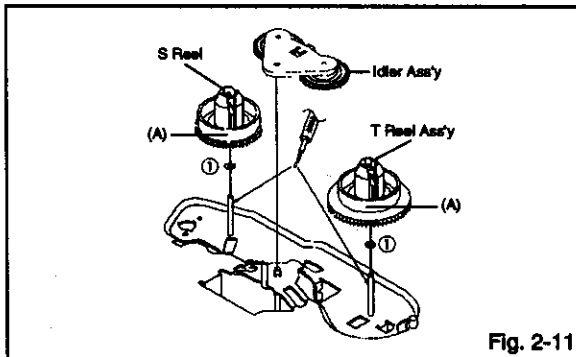

Fig. 2-11
2-11: S REEL/T REEL ASS'Y (Refer to Fig. 2-11)
4. Do not touch the section "A" of S Reel and T Reel Ass'y. (Use gloves.) (Refer to Fig. 2-11) Do not adhere the stains on it.